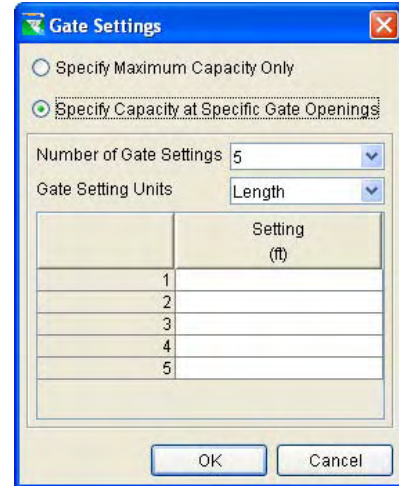

Figure 10.33 Gate Settings
4. Click the **Edit Gate Settings** button to access the **Gate Settings** dialog box (Figure 10.33). Gate settings are sometimes known as “cranks.”